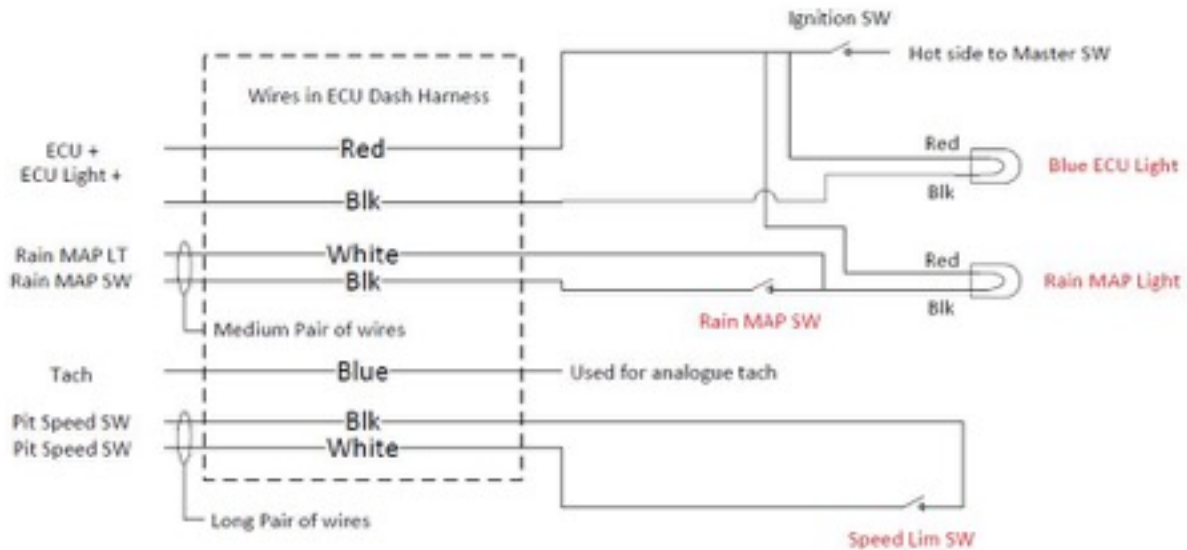

Figure 18 – Dash Wiring
39. Connect the dash harness following the layout in Figure 18.
- b. Harness ECU + RED wire routes to cold side of the existing ignition switch. (See Figure 18)